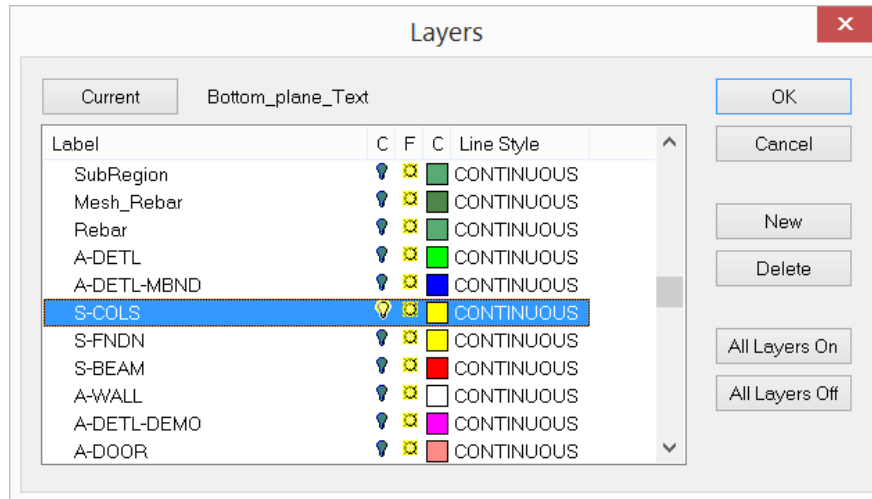

Figure 6.4-4 - Layers Dialog Box
- Use ribbon item **Home | Display | Layer Settings**, to open the **Layers** dialog box. Click on the button **All Layers Off**. This will turn off all the layers in the drawing. Click on the light bulb icon in the **On/Off** column for the layer representing the structural columns (**Figure 6-4-4**) to turn on only the objects in this layer while the display of other objects remain turned off.
- Select the menu item **Home | Display | Layer Settings**, to open *Layers* dialog box. Click on the button “**All Layers Off**”. And this time turn **All Layers Off** and turn on that layer representing the structural slab layer (**Figure 6.4-4**) to display only the polygon representing the slab region(s).